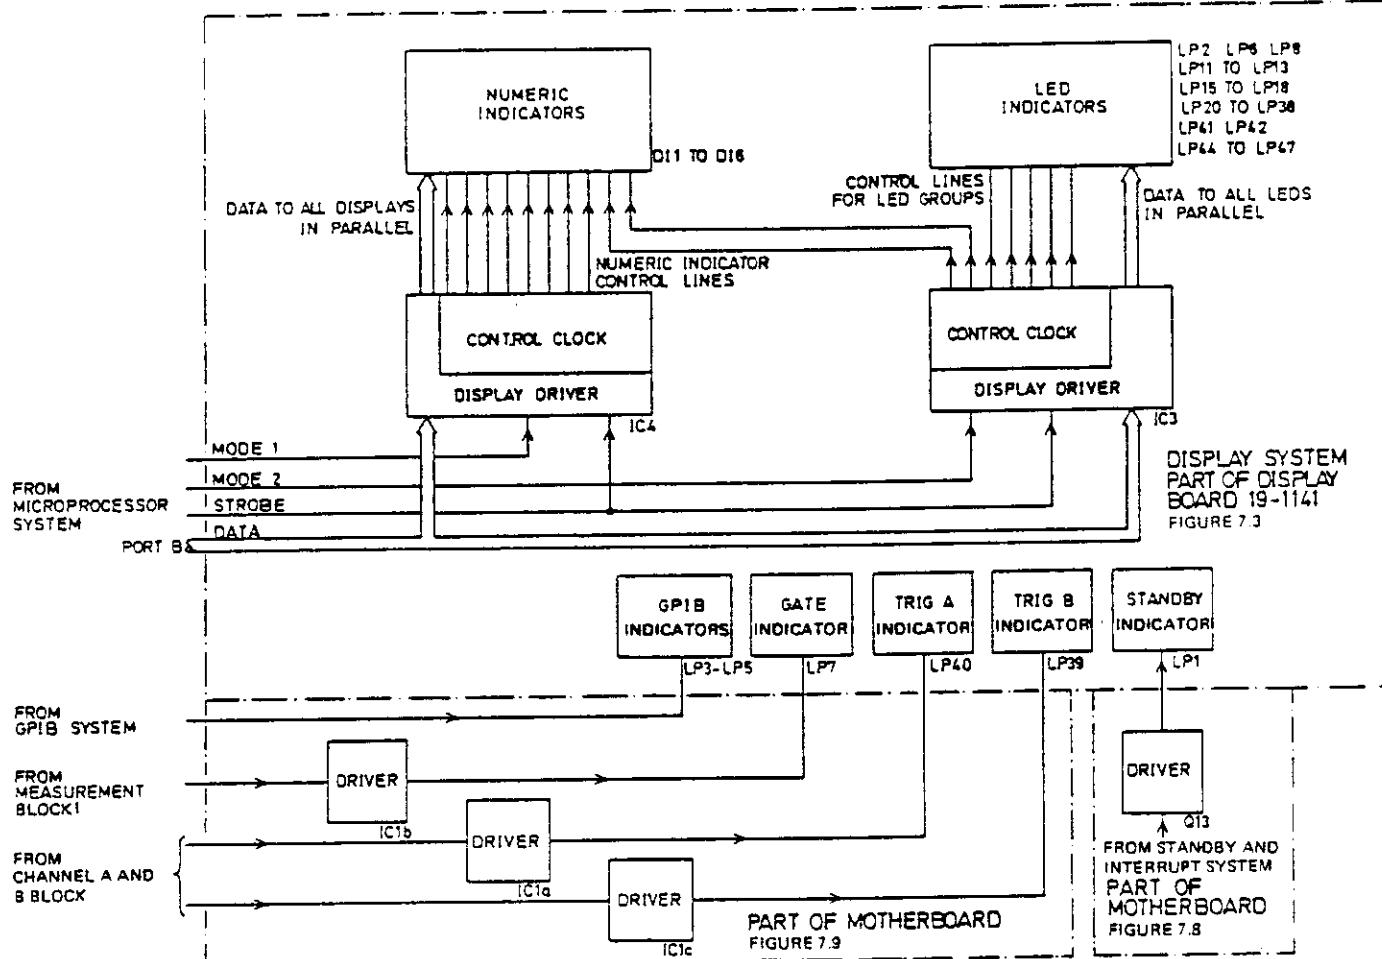

Figure 5.6 – Display-Block Diagram
5.3.4.1.1 A simplified diagram of the display block is given in Figure 5.6. The GPIB LEDs, GATE LED, Channels A and B TRIGGER LEDs, and the STANDBY LED are held on or off by control signals from other systems. The remainder of the display is multiplexed under the control of the display drivers.